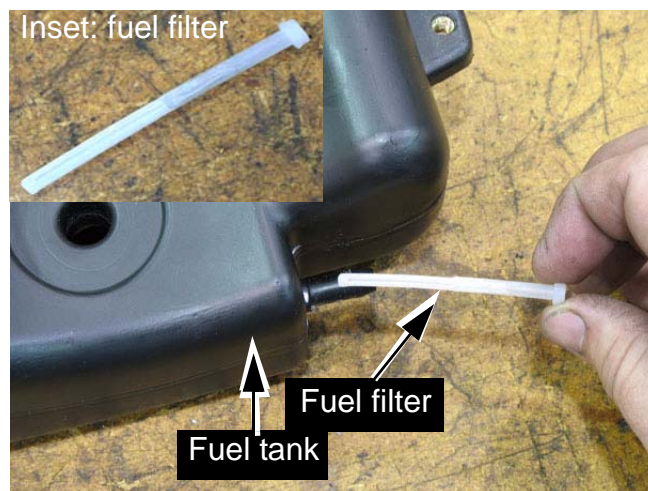

Figure 2.6
- MTD engines have a fuel filter installed in the fuel tank barb. See Figure 2.6.